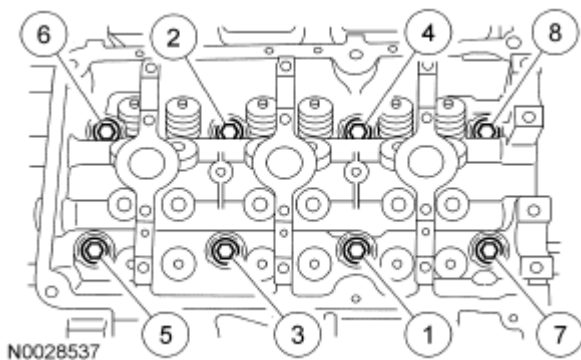

Fig. 89: Identifying Loosening Sequence Of Bolts
4. Install the bolts and tighten in 6 stages in the sequence shown in **Fig. 89**.